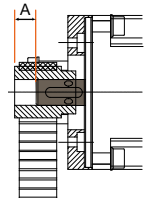

Figure 23:
- ◆ Fit toothed pulley and set dimension "A".(please refer to Figure 23. Dimension "A" is provided by Parker. If the drive was exchanged, please set the dimension "A" noted before.